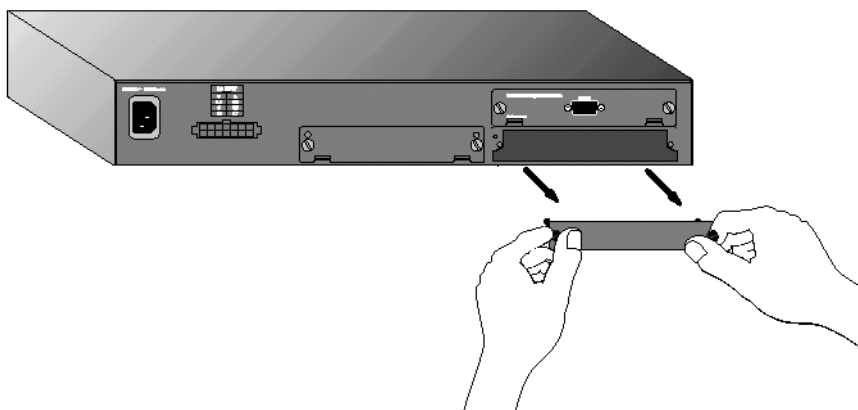

Figure 4 Removing a Faceplate
2. Using a flathead screwdriver, remove the faceplate from either the lower right (slot A) or the lower left (slot B) expansion slot, as shown in Figure 4.